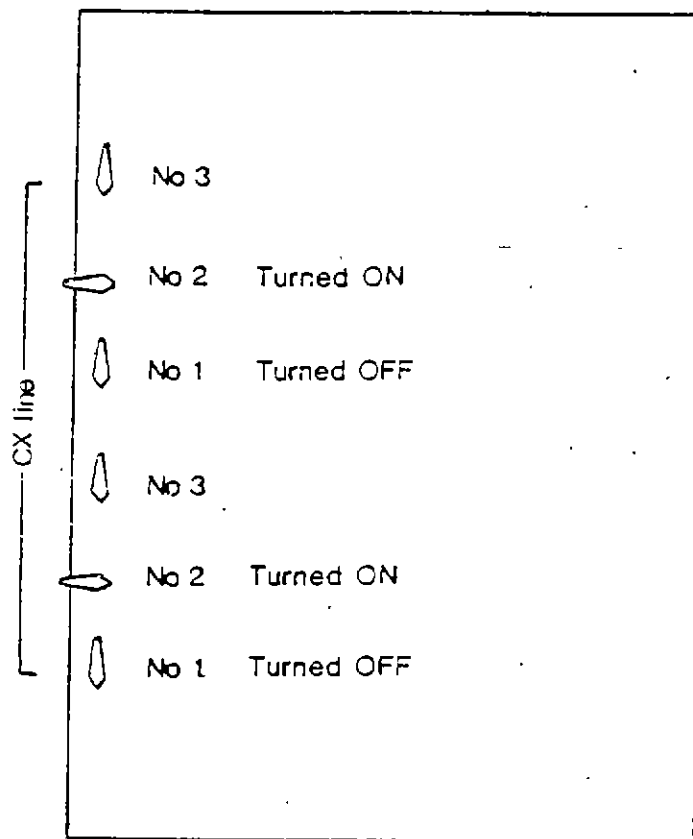

fig.2.4
1. Locate manifold board in Vertex room and refer to fig. 2.4
2. Turn OFF SUPPLY valve followed by the RETURN valve (No 1 compressor on CX line) then turn ON RETURN valve followed by the SUPPLY valve (No 2 compressor on CX line) this results in the northern No 2 (LS) compressor running both the CX and LS cryodynes.